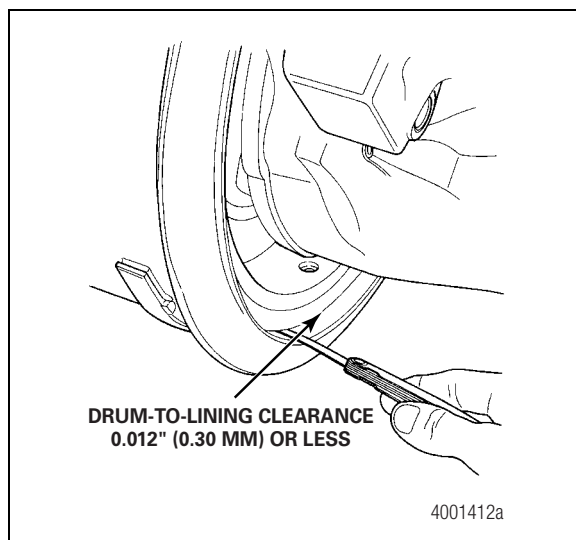

Figure 5.24
4. Use a feeler gauge to measure the clearance between the lining and the drum. Figure 5.24.